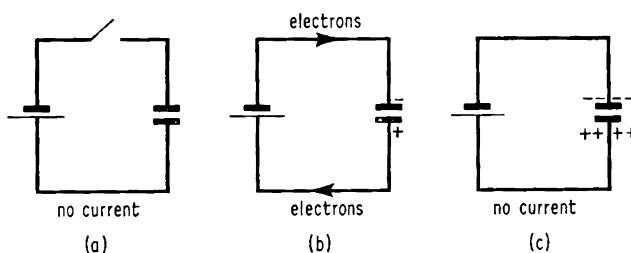
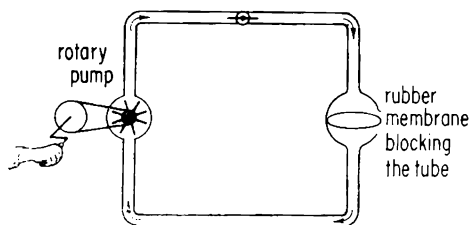

Fig. 56
Fig. 57
When a capacitor is connected as shown in Fig. 56 (a), no electrons flow and there is no p.d. across the plates of the capacitor. When the switch is closed as in Fig. 56 (b), electrons flow in the direction shown and the capacitor is charged. When the p.d. across the plates is equal to the p.d. of the cell, the current stops (Fig. 56 (c)). *What would happen if the switch were now opened? (33) Can energy be stored in a capacitor? (34)*
Problem 35. How does the water-filled model in Fig. 57 resemble the circuit in Fig. 56?